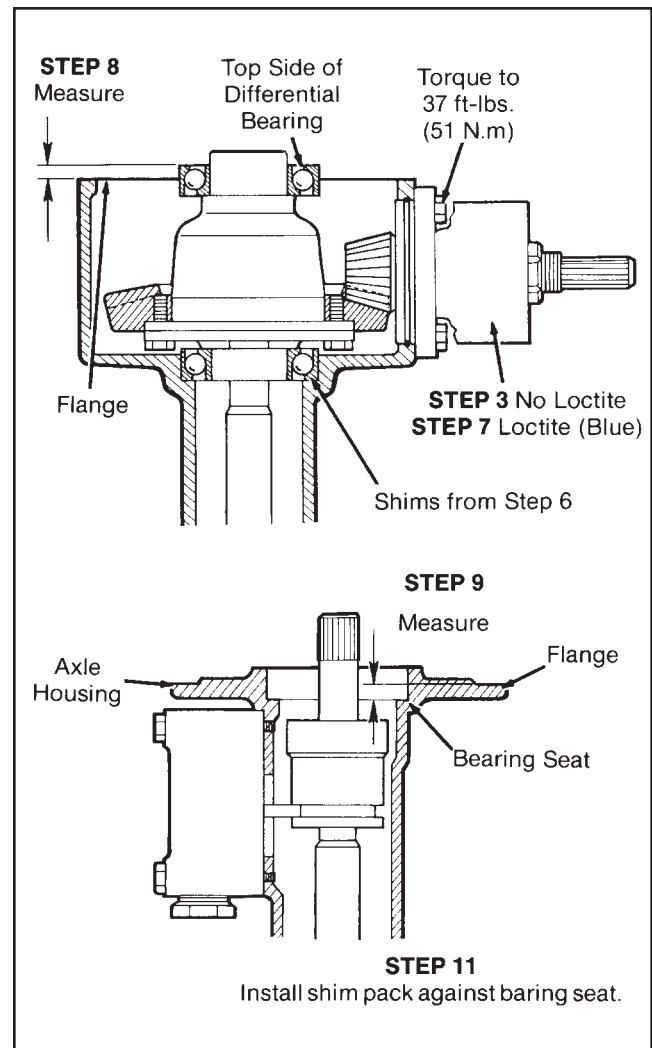

Figure 4E-12. Pinion and Ring Gear Backlash Adjustment
12. Continue to assemble axle as in Figure 4E-9.